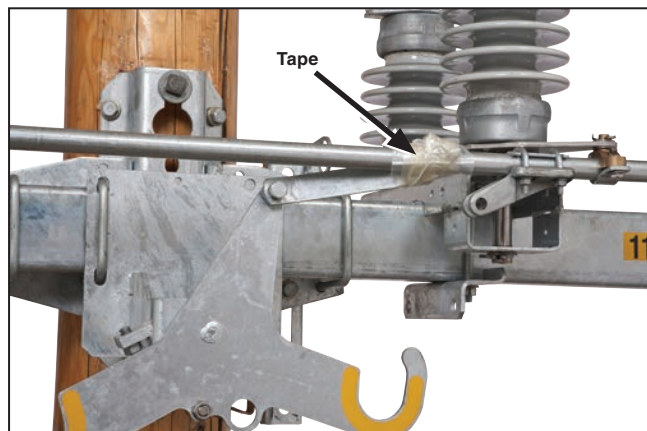

Figure 2. Removal of tape securing the operating linkage.
- STEP 1.** Remove the tape securing the operating-handle linkage, as shown in Figure 2.